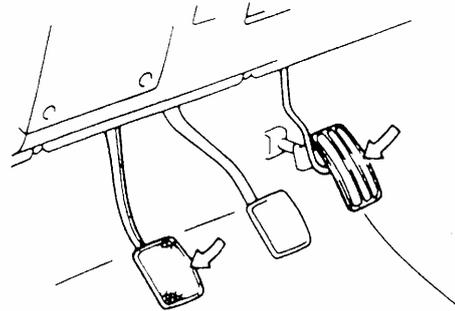

Fig4-201
- 6) As shown fig 4-201, depress clutch pedal and accelerator control , make clutch be released and throttle be opened fully.